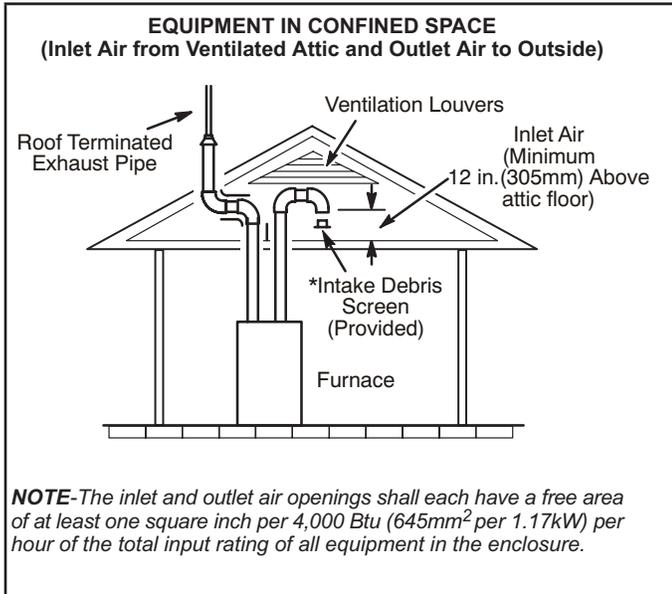
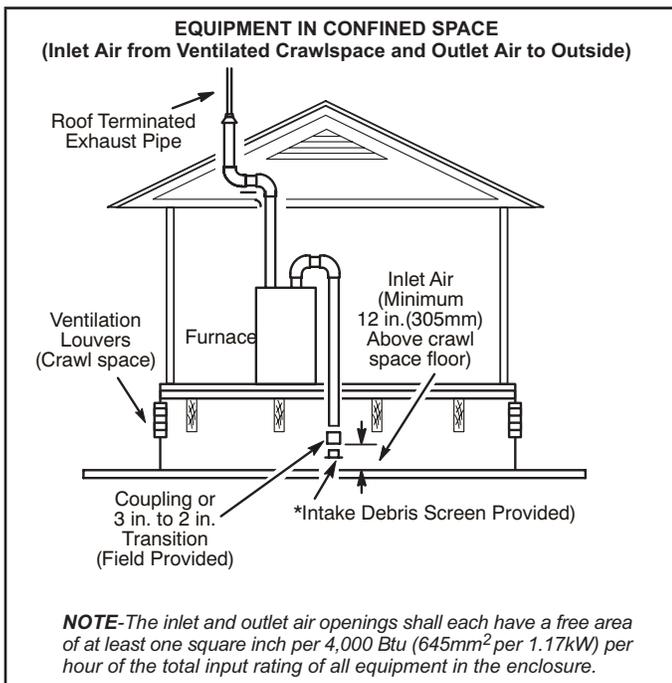

FIGURE 29
FIGURE 30
- 2 - If intake air is drawn from a ventilated attic (FIGURE 29) or ventilated crawlspace (FIGURE 30) the exhaust vent length must not exceed those listed in TABLE 15. If 3" diameter pipe is used, reduce to 2" diameter pipe at the termination point to accommodate the debris screen.